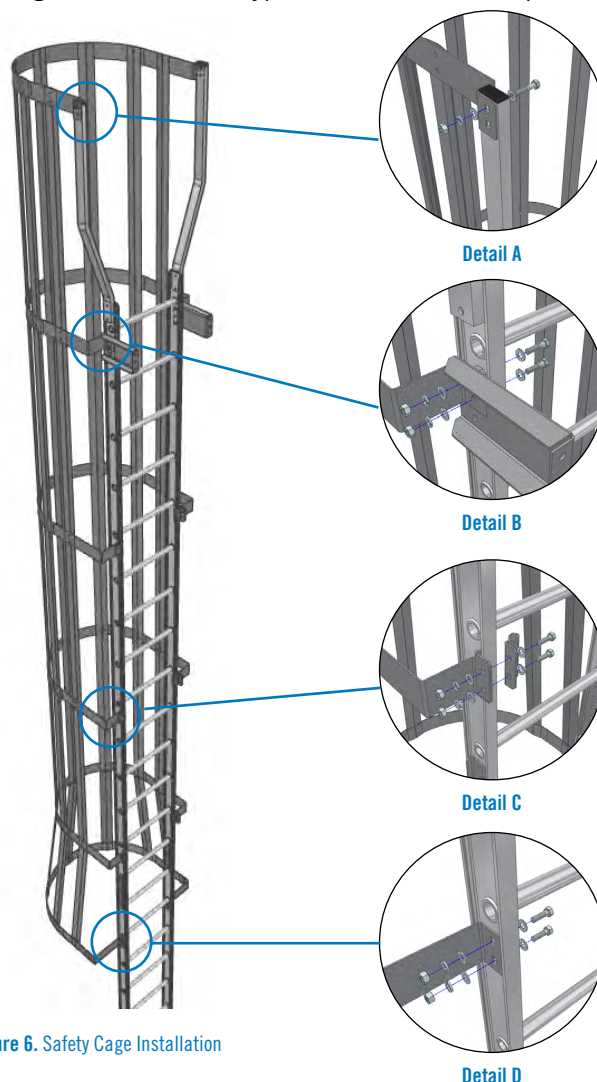

Figure 6. Safety Cage Installation
1. Bolt the safety cage to the ladder using flat washers, lock washers, and nuts. Orient all fasteners with bolt heads inside the safety cage. See **Figure 6, Detail A** through **D** for fastening details at each cage attachment point.
- The points where the safety cage attaches to the upper ladder bracket (**Figure 6, Detail B**) the hardware is shared with the brackets.
- When attaching the safety cage at **Figure 6, Detail B**, verify the spacers are still sandwiched between the ladder bracket and the ladder side rail.
- **Figure 6, Detail C** is typical at all attachment points between **Detail B** and **Detail D**.